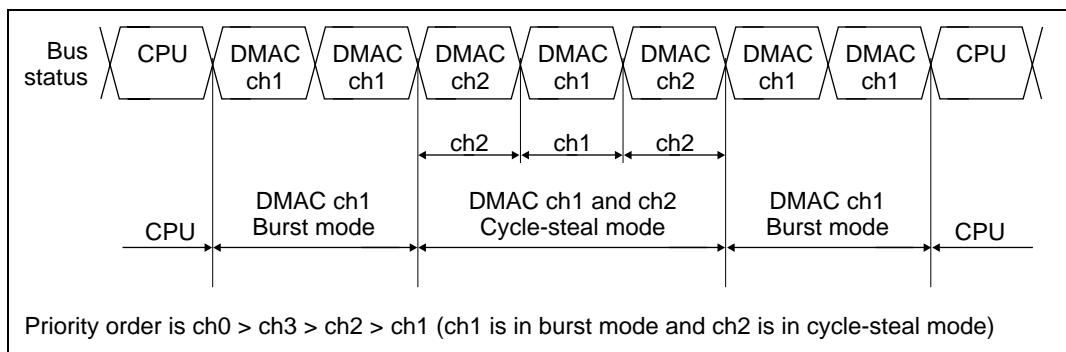

Figure 9.12 Bus Handling when Multiple Channels are Operating
Bus Mode and Channel Priority Order: When a given channel (1) is transferring in burst mode and there is a transfer request to a channel (2) with a higher priority, the transfer of the channel with higher priority (2) will begin immediately. When channel 2 is also operating in burst mode, the channel 1 transfer will continue when the channel 2 transfer has completely finished. When channel 2 is in cycle-steal mode, channel 1 will begin operating again after channel 2 completes the transfer of one transfer unit, but the bus will then switch between the two in the order channel 1, channel 2, channel 1, channel 2. Since channel 1 is in burst mode, it will not give the bus to the CPU. This example is illustrated in figure 9.12.